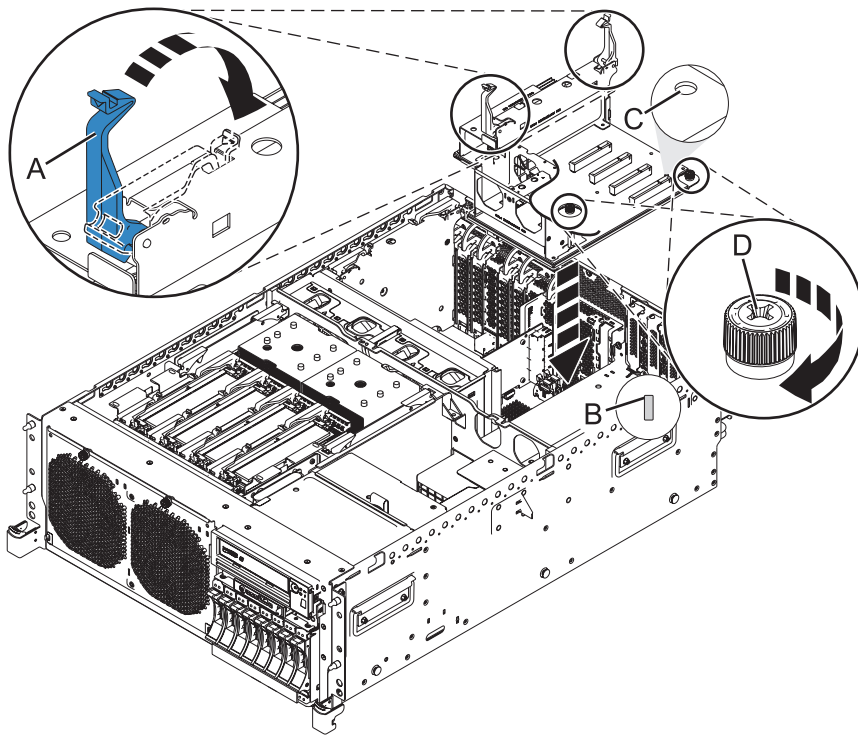

Figure 48. Replacing the PCI riser
- b. Press the PCI riser latches (A) down until they lock into place. See Figure 48.
- c. Tighten the two thumbscrews (D).